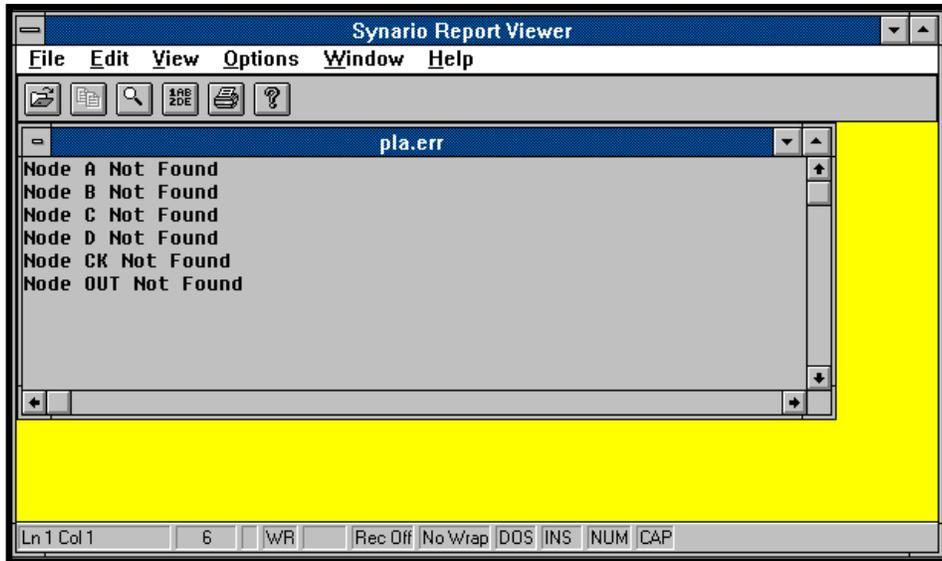

Figure 1-30. Synario Report Viewer and Error Message Window
55. In the Navigator, with Compile Test Vectors still selected, double-click on the Equation Simulation Waveform process. Since you edited the existing test vector file instead of creating a new one, you will get an error message (Figure 1-30) saying that the signal names you used earlier cannot be found. Accept the message and close the Report Viewer.